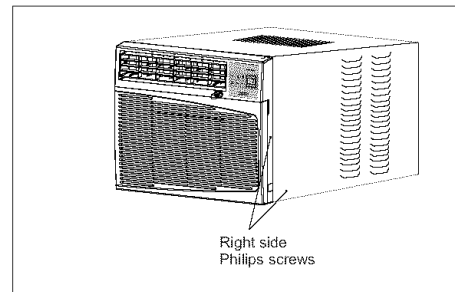

Fig. 1
See (Fig. 1).
B. Secure the front grille to the cabinet using the Philips screws removed earlier (Fig. 1).